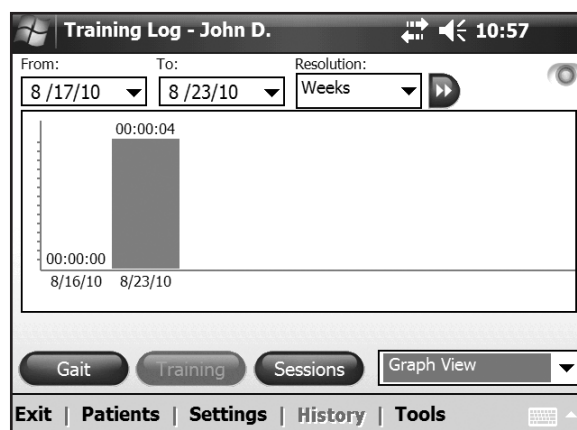

Figure 7-35: Training Log, Graph View.
- **Graph View** displays the session date and the session duration for each date in a bar graph. See Figure 7-35. Each column represents a day, week, month, or year, per the specified resolution.